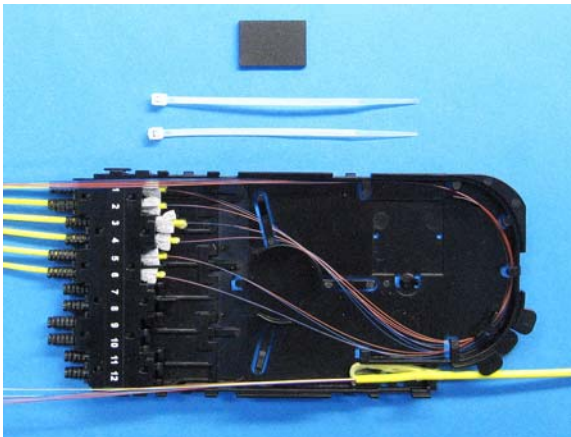

Figure 12. Cassette With Foam Wrap
- Ready foam wrap and two cable ties as shown in Figure 12.